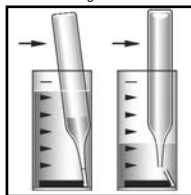

Figure 3
3. Place the Vacu-vial ampoule, tip first, into the sample cup. Snap the tip. The ampoule will fill leaving a bubble for mixing (fig. 3).